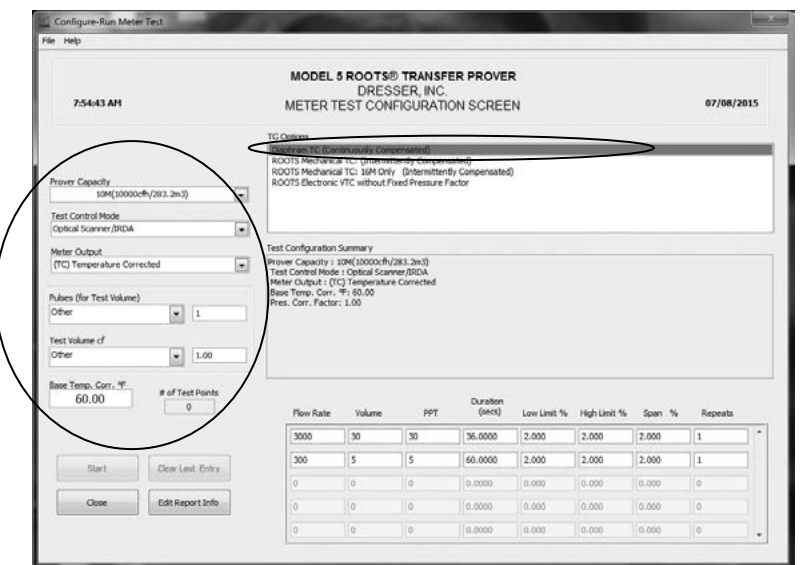

Figure 9 - Prover Configurations screen for Model 5 Prover software
The Model 5 Prover software must be set up as circled on the left side of the screen shot as shown in Figure 9. The TC options box must also be set for Diaphragm TC for all meter sizes, as circled in Figure 9. For reference, the values for the prover configuration are explained in Section 6.
- **Flow Rate:** To add additional test points, enter the desired flow rate in the next available box in the "Flow Rate" column. Figure 9 shows a value of "1600" representing 10% of flow for a 16M meter.
- **Volume:** Enter the desired test volume. Suggested values are provided in Table 1. A value of "20" is shown in Figure 9 representing the recommended test volume for testing a 16M meter at 10% of maximum flow rate